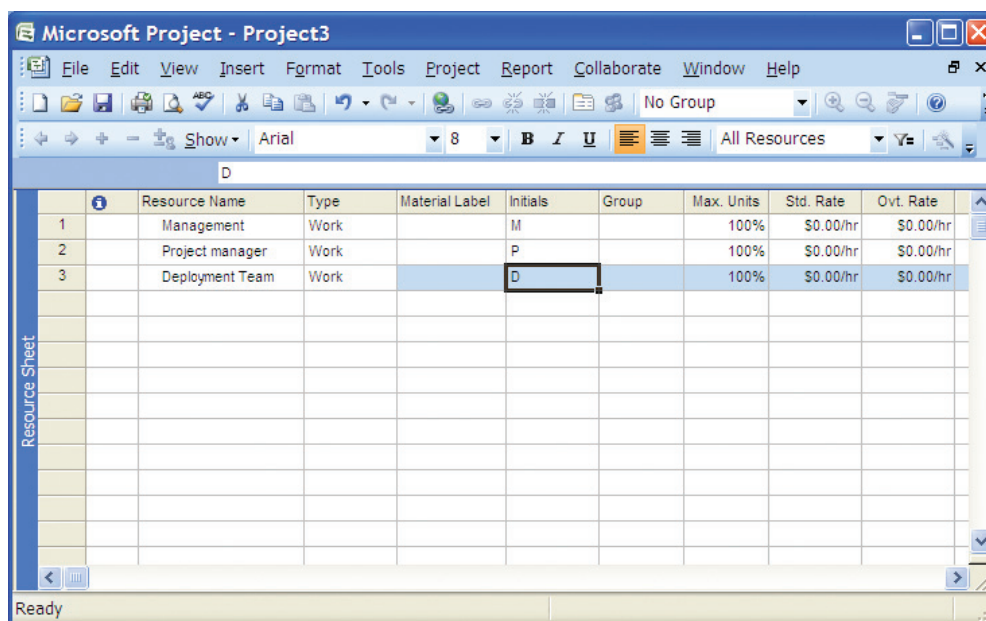

FIGURE T12.20
1. Click **View**, then select **Resource Sheet** to switch to the Resource Sheet view (see Figure T12.20).
3. In the first Resource Name field, type a resource name, such as Deployment Team (as seen in Figure T12.20) and press **Enter**.